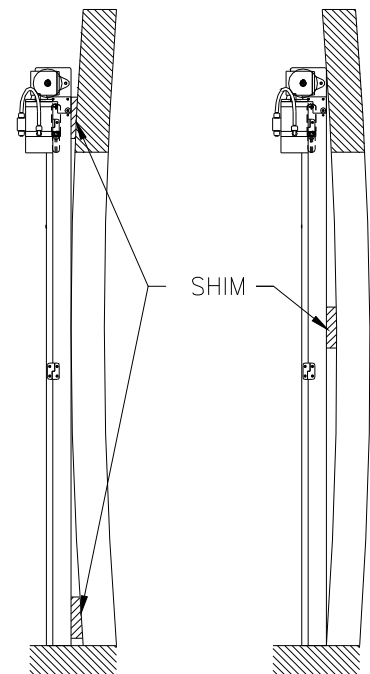

FIG. 6B
- Shim Uprights as needed so Uprights will not twist or warp when attached to wall (Figure 6b).